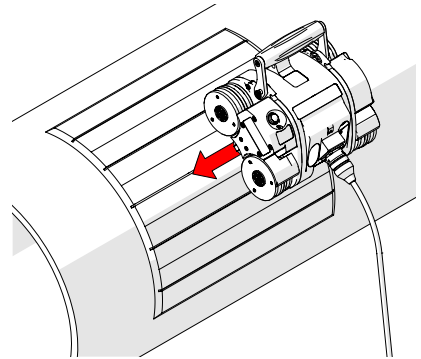

Fig. 99 - Place installation/removal mat
4. Place and hold the crawler on the installation/removal mat (Fig. 99).